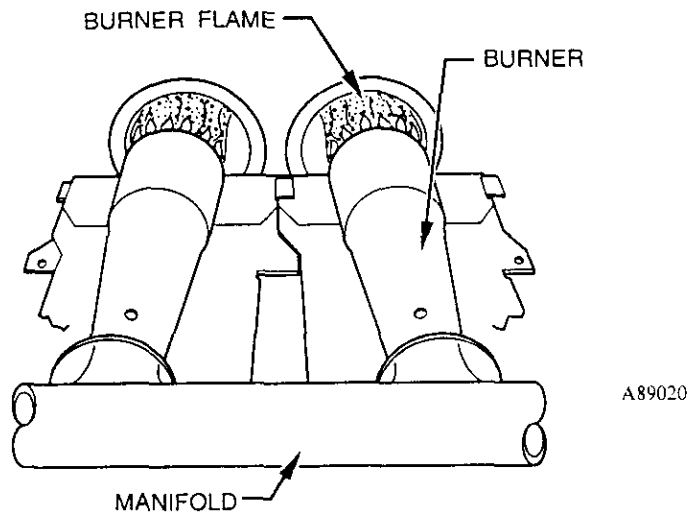

Fig. 29 – Burner Flame
- c. When correct input is obtained, main burner flame should be clear blue, almost transparent. (See Fig. 29) Be sure regulator seal cap is in place when finished.
- d. Main burner flame should be clear blue, almost transparent. (See Fig. 29)
- f. Main burner flame should be clear blue, almost transparent. (See Fig. 29)